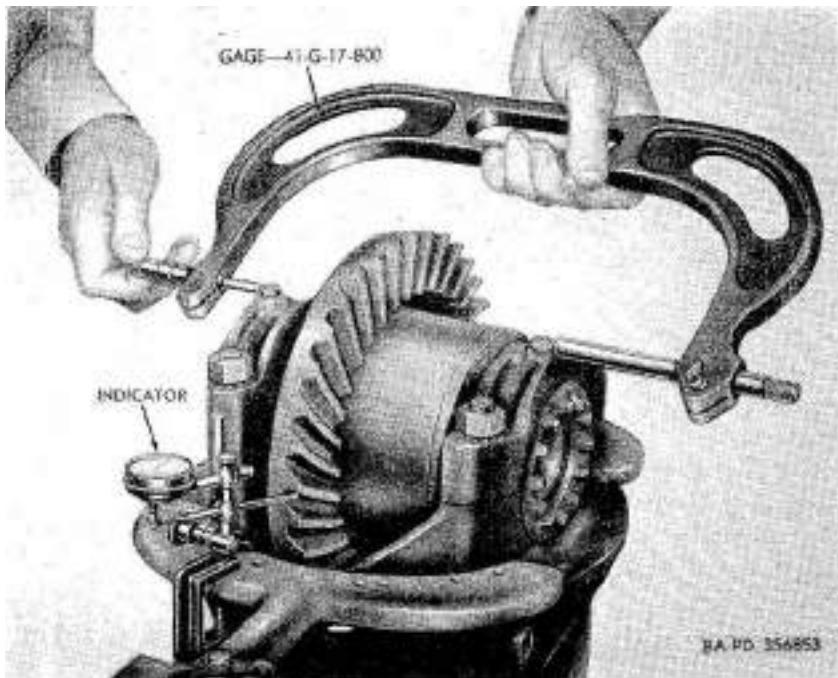

Figure 93. Proper application of spread gage and dial indicator.
- (2) Turn differential adjusting nut (N) (tooth side of drive gear) out $1\frac{1}{2}$ turns to relieve bearings. Tighten bottom nuts on differential bearing cap studs to 100 to 120 pound-feet torque.
- (3) Set micrometer adjustment on spread gage (fig. 93) at "0" position ; then position arbor at opposite end so that gage will just slip over outside edges of lock washer screws in differential bearing caps. Adjust micrometer so that gage properly contacts heads of lock washer screws. Remove gage and turn the micrometer out (counterclockwise) 0.014 inch. Place gage aside, exercising care to prevent changing of the micrometer setting. Remove lock washer screws from differential bearing caps.
- (4) Install a dial indicator (fig. 93) on drive pinion carrier to check backlash between drive gear and pinion.
- (5) Rotate the drive gear a complete revolution and check the backlash at five different positions to determine the point of least clearance between drive gear and pinion. After the point of least clearance has been established, do not rotate drive gear until all adjustments have been completed.
gage 41-G-17-800 (fig. 93) to determine if the spread is within the limits specified in paragraph 343.